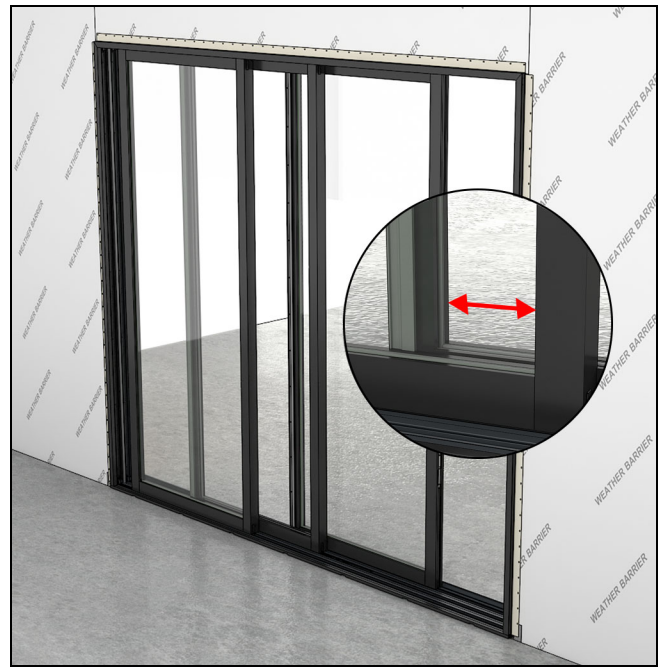

Figure 192
7. With the primary panel open slightly, move the secondary panel until you can see daylight through the glass between the stiles. Check for an even reveal and adjust the rollers on the secondary panel. Repeat as necessary for every secondary panel. See Figure 192.